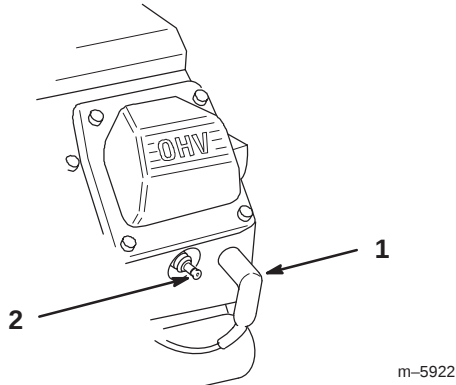

Figure 38
3. Pull the wires off of the spark plugs (Fig. 38).
3. Push the wires onto the spark plugs (Fig. 38).